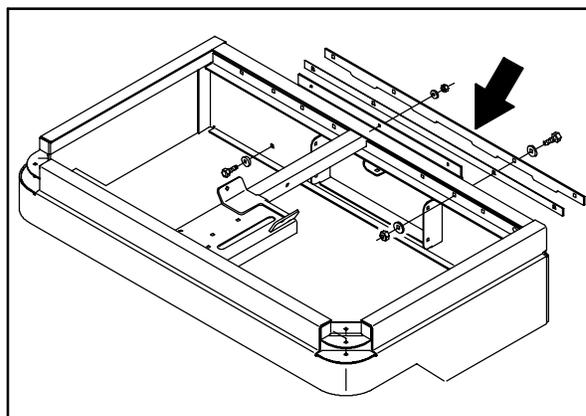

FIG. 1
1. Set the pre-sweep assembly (15) in front of the machine. Align the mounting holes in the pre-sweep assembly with the mounting holes in the front of the machine. Refer to Fig. 1.